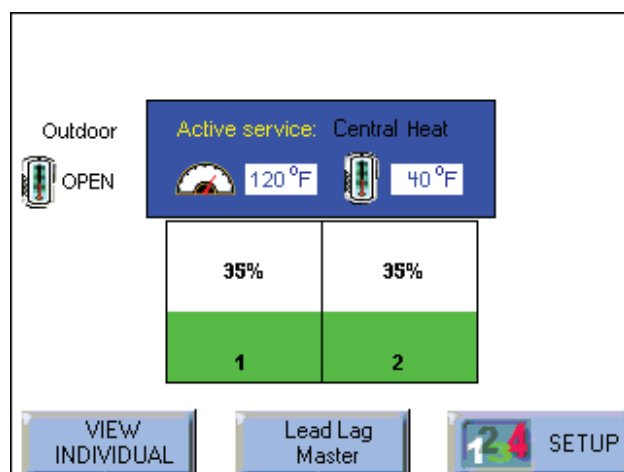

Fig. 83 – Lead/Lag Screen
2. If the system were running, the following screen would normally show the current activity of each unit in the Lead/Lag system. See Fig. 83.